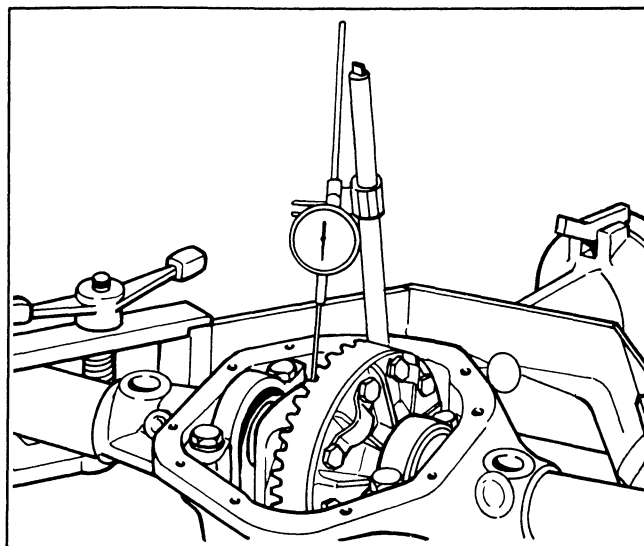

Figure 2-20. Checking Backlash
22. Install differential drive gear and case assembly (7), including bearing cups (8), into housing. To insure proper seating of differential bearings in the cross-bore, the drive gear should be tapped with a rawhide hammer. Care must be taken in this operation to prevent nicking of drive pinion or drive gear as they are meshed together.
23. Install differential bearing caps (6). Bearing cap marks must match marks on carrier. Coat cap screw (5) threads with sealing compound, and torque screws to 45 ft.-lbs. Be sure all surfaces are clean and free from mutilation.
24. Set up dial indicator and with contact point on a drive gear tooth, check backlash between drive gear and drive pinion. See Figure 2-20. Check backlash at four equally spaced points around drive gear. Backlash must be held between .004" to .009" and cannot vary more than .002" between positions checked. If backlash does not fall within these specifications, change shim packs on both differential bearings. See Step 20.
25. Install gasket (4) and cover (3) using a new gasket. Torque cover screws to 20 ft.-lbs.